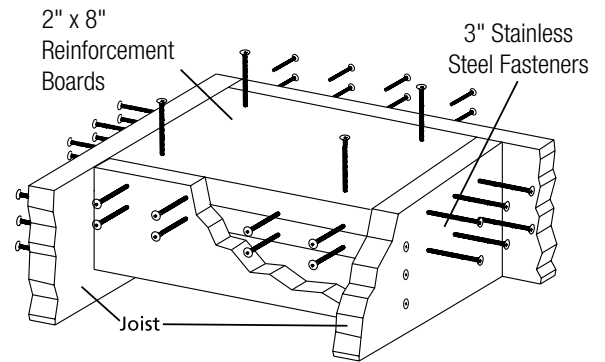
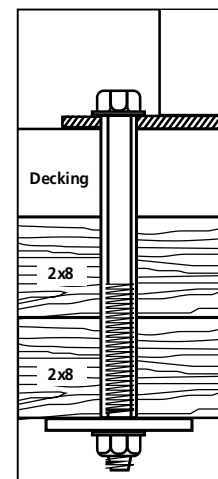

Figure 5
Figure 7
2. The thickness of the wood/composite deck and reinforcement boards underneath the deck should be a minimum of 4". (Two treated and structurally sound 2" x 8" lumber under the deck board, (Figure 7). Fasten the reinforcement boards with 3" stainless steel fasteners as shown (Figure 5).
11. Fasten the four bolts underneath the reinforcement boards with the 5/16" Fender washer (included in kit) and 5/16" galvanized hex nuts (not included) (Figure 7).